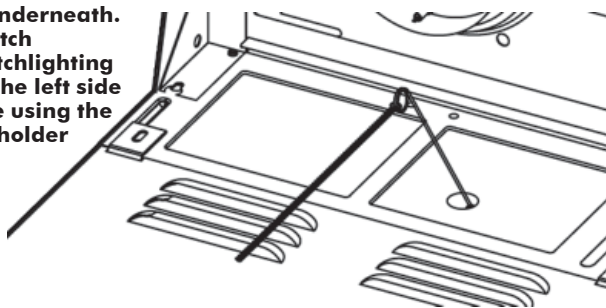

Fig. 11
5. Insert a lit match through the match-lighting hole using the match holder (Fig. 11 and 11a) OR through the cooking grates. (Fig. 12)